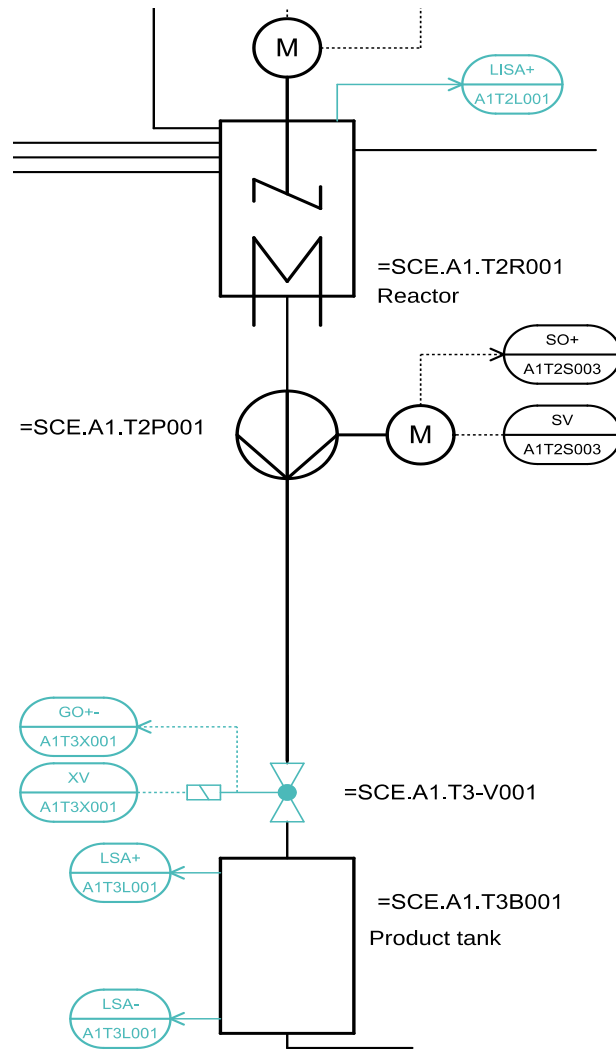

Figure 7: Excerpt from P&ID flowchart
2. An object instance of the valve template is now to be inserted in the chart folder 'product\_tank B001' of unit T3\_product\_tanks and renamed to A1T3X001. Open the CFC and also adapt the name of the 'VlvL' block. Now, close the feedback and control signals (see Figure 7 and Table 5).
4. To integrate the analog level sensor A1T2L001 (see Figure 7), create a new CFC in chart folder 'reactor R001'. Name this CFC A1T2L001 and open it. Drag the block 'Pcs7AnIn' (FB1869) from the catalog to the CFC. To do this, select the Libraries tab in the left frame and then use either the search function at the very bottom or open PCS 7 AP Library V90/Blocks+Templates\Blocks/Channel. As soon as the block has been inserted, rename it Level\_A1T2L001.